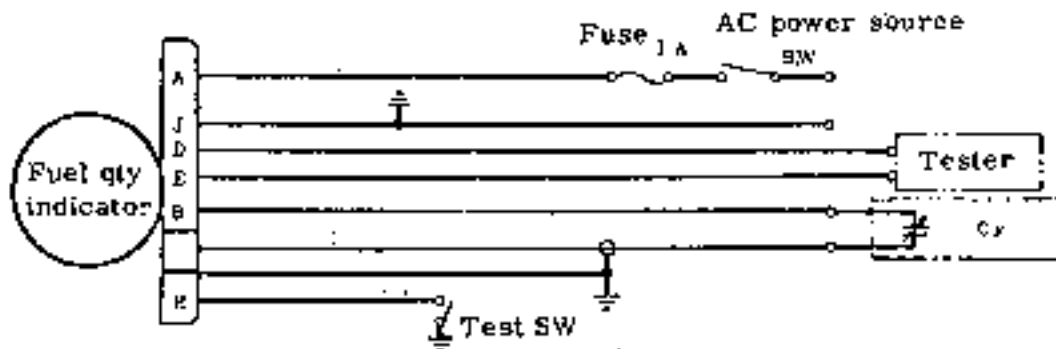

Fig. 10-15 Wing tank fuel qty. ind. .
- (1) Connect the indicator as shown in Fig. 10-15, select the condenser capacity per the following table, and read the indicator.
- (2) When indicator reads 30 ± 5 gallons, check pointer deflection.